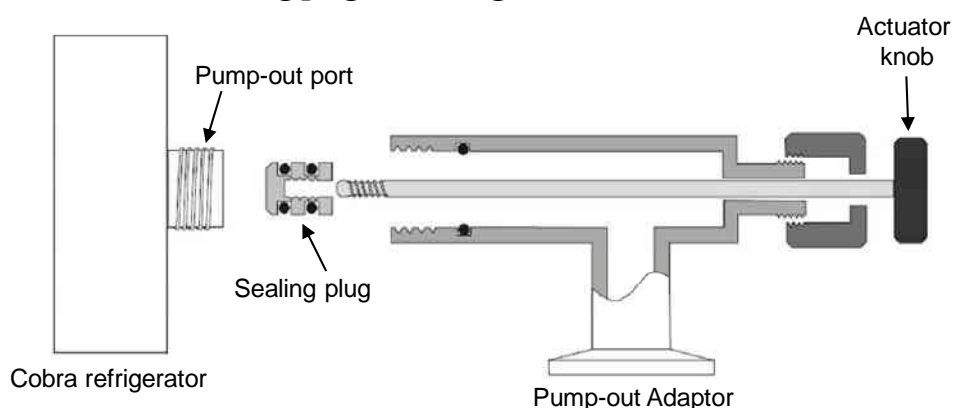

Figure 16 – Attaching the pumping adaptor
3. Screw the pump-out adaptor onto the pump-out port (see Figure 16). Connect a good rotary pump (preferably 2-stage) to the Cobra pump-out port using the pumping adaptor (see picture below) supplied.